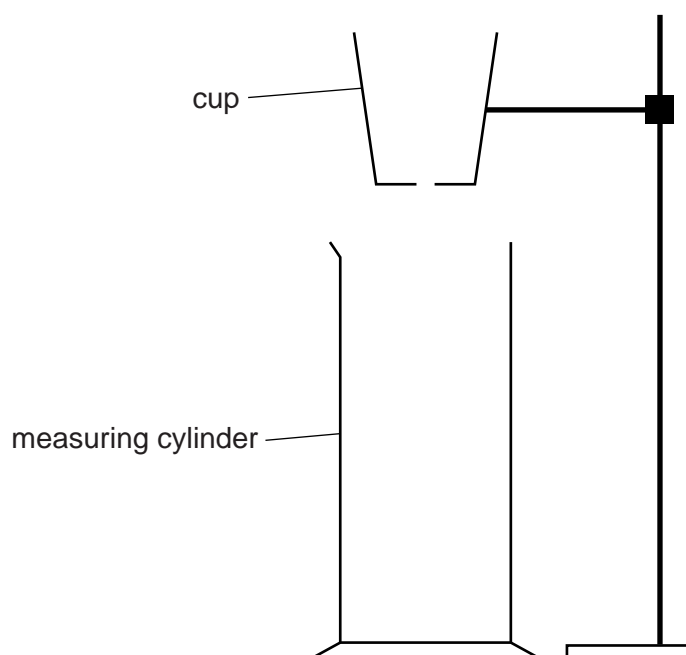

Fig. 2.1
1. The cup is to have a small hole, between 2 mm and 3 mm diameter, in the base. The hole must allow water to flow out of the cup so that 100 cm^3 of water flows out in approximately 30 s to 60 s. The cup must be supported by a clamp (or similar device), over a measuring cylinder as shown in Fig. 2.1.